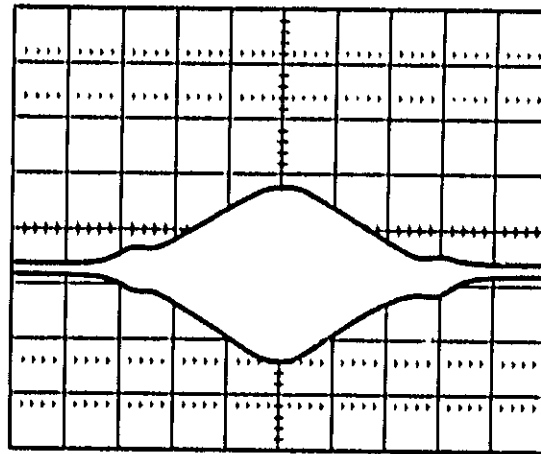

Figure 5-35. 50 MHz Birdie
5. Adjust oscilloscope Channel B vernier for a horizontal deflection of exactly 10 divisions. Set 8350A/B CF=1GHz,  $\Delta F$ =10 MHz. Select 50 MHz Markers. Center the birdie envelope on the screen with plug-in front panel FREQ CAL control. (See Figure 5-35.) Then select 10 MHz Markers. Change  $\Delta F$  to 1 MHz. Recenter birdie. Display is now calibrated for 100 kHz/Division.